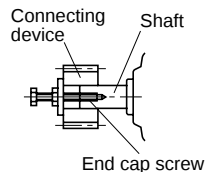

Fig.25
- Thermal shrinking or end cap screws are recommended for mounting (Fig.25).